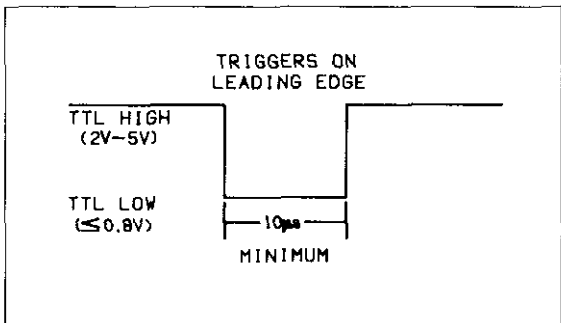

Figure 3. External Trigger Pulse Specifications
2. Connect an appropriate trigger pulse source (see Figure 3) to the EXTERNAL TRIGGER input on the rear panel.